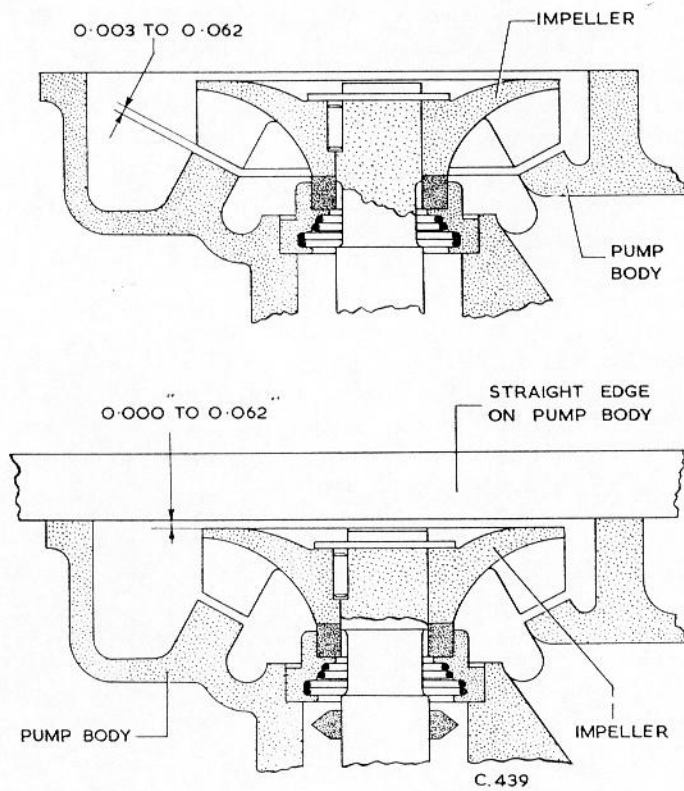

Fig.6 Checking pump impeller clearances.
6. Using feeler gauges, check the clearance between the vane face of the impeller and the pump body, and between the pump and impeller faces as shown in Fig. 6. Provided that the components are in a satisfactory condition, these clearances are usually obtained. However, if the impeller vanes are touching the pump body, loosen the locating screw and, using the hollow drift, tap back the bearing as much as the locating screw spigot will permit. If this does not give sufficient clearance, remove the impeller and slightly reduce the vane faces. Should the clearance of the vanes be excessive and there is insufficient clearance between the impeller and pump body faces, reverse the direction of the above procedure. When the clearances are satisfactory, tighten and wire-lock the locating screw.